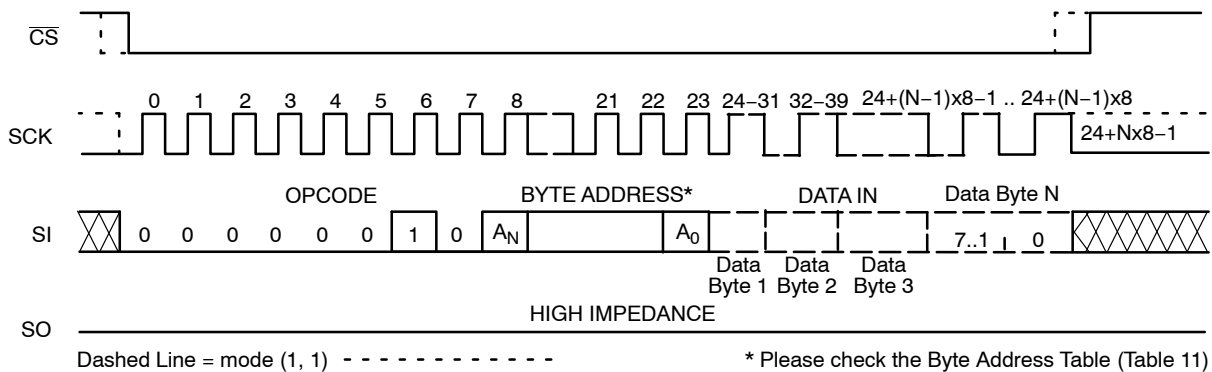

Figure 6. Page WRITE Timing
After sending the first data byte to the CAV25128, the host may continue sending data, up to a total of 64 bytes, according to timing shown in Figure 6. After each data byte, the lower order address bits are automatically incremented, while the higher order address bits (page address) remain unchanged. If during this process the end of page is exceeded, then loading will “roll over” to the first byte in the page, thus possibly overwriting previously loaded data.
The additional 64-byte Identification Page (IP) can be written with user data using the same Write commands sequence as used for Page Write to the main memory array (Figure 6). *The IPL bit from the Status Register must be set (IPL = 1) using the WRSR instruction, before attempting to write to the IP.*